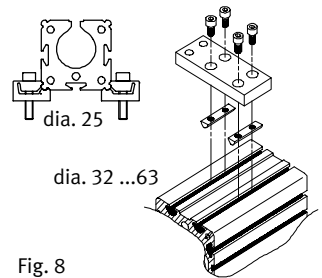

Fig. 8
1. Place the profile fastenings on the DGPI(L)-... in accordance with Fig. 8.